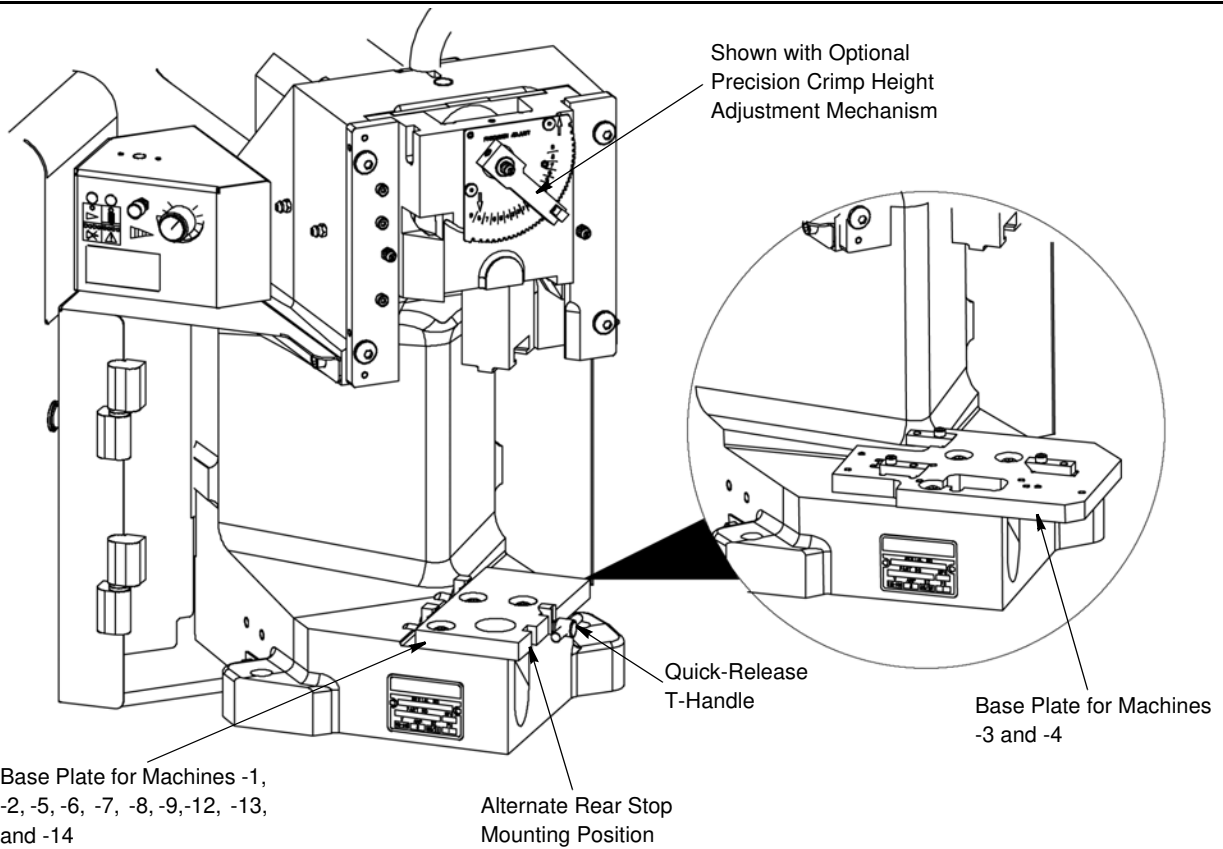

Figure 4
3. The base plate provides the mounting surface on which the applicator is installed. The quick-release latching feature on Machines -1, -2, and -5, through -13 permit fast, easy installation and removal of the applicator. Note that Machines -3 and -4, restricted to Asia/Pacific market, do not include the quick-release latching feature. See Figure 4.
When using Applicator 567200-2 (originally intended for use with AMP-O-LECTRIC Model "K" terminating machine), loosen the quick-release T-handle, slide down the applicator base clamp, and remove the rear stop located on the left side of the base plate. Install the rear stop (PN 354561-1), supplied with the air feed kit, at the alternate mounting position on the base plate. See Figure 4.